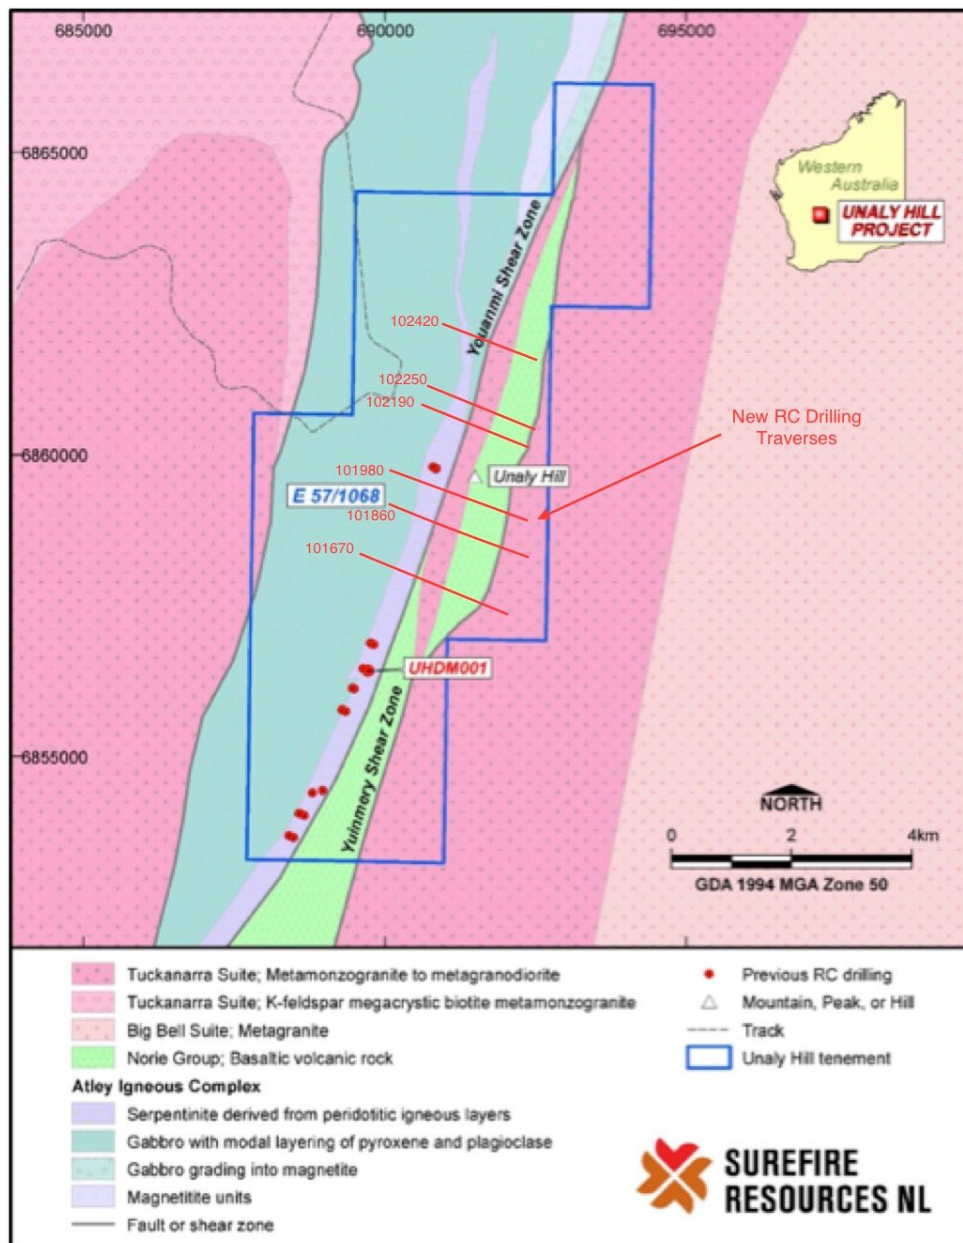

Figure 1
The 2018 RC drilling program was designed to extend the known mineral resource at Unaly Hill to the north along strike (Figure 1). A total of 10 reverse circulation (RC) drill holes were completed along six traverses for an aggregate of 1,258m. The programme was based on detailed 2D forward modeling of high resolution airborne magnetic data carried out by Southern Geoscience Consultants